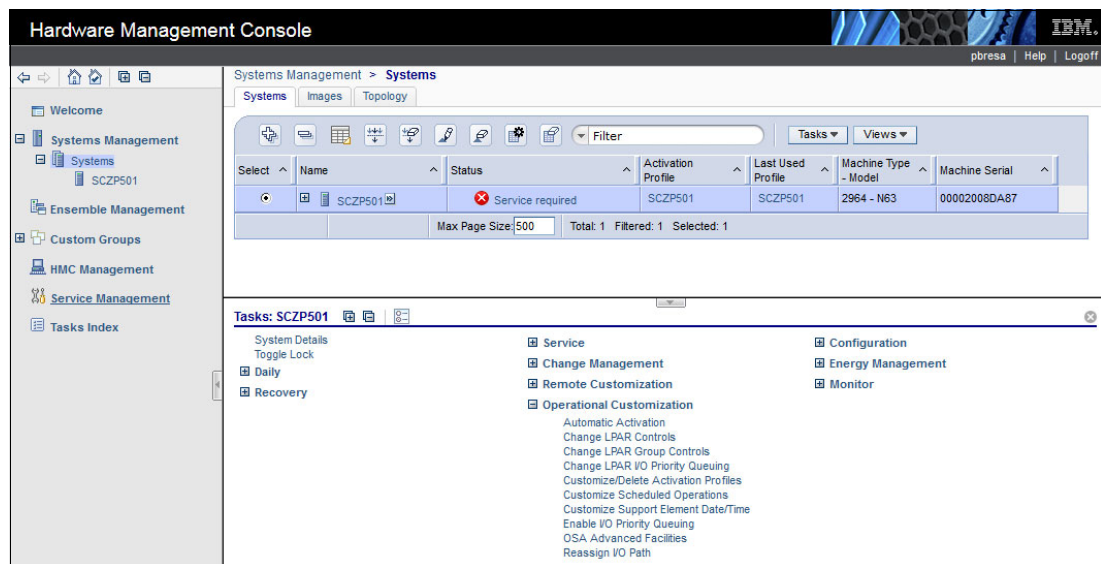

Figure 8-130 HMC - Customize Activation Profiles
4. On the Tasks tab, click **Operational Customization** to expand it, and select **Customize/Delete Activation Profiles** (Figure 8-130).